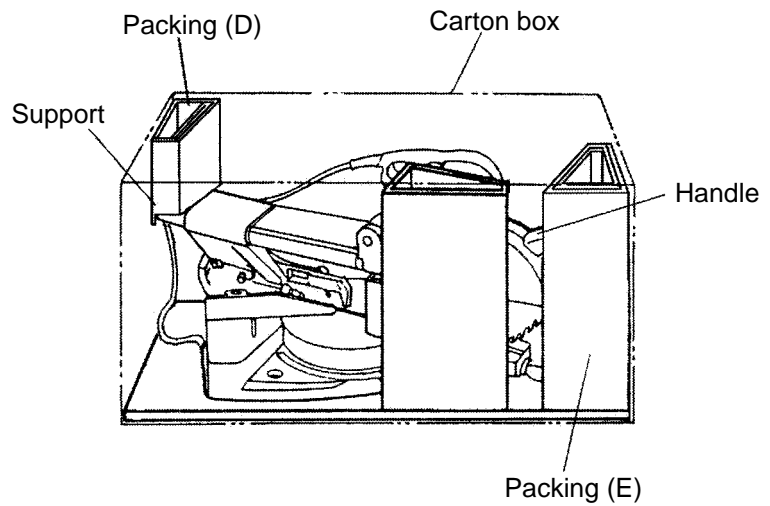

Fig. 57
(4) How to install packings (D) and (E)
Put the main body mounted with packings (A), (B) and (C) in the carton box aligning with the base packing. Place packing (D) contacting the top and the sides of the support and place packing (E) at the tip of the handle of the head. Place the accessories in the space at the right side of the base (Fig. 57).